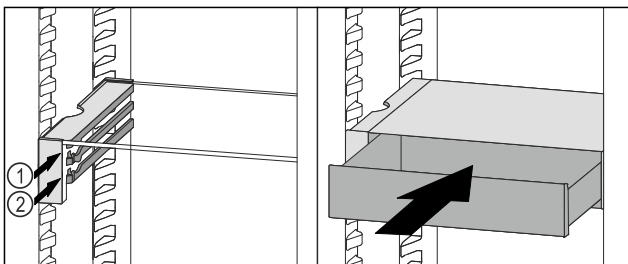

Fig. 120
- ▶ Place the VarioSafe drawer behind the stoppers on desired rib Fig. 120 (1) or Fig. 120 (2).